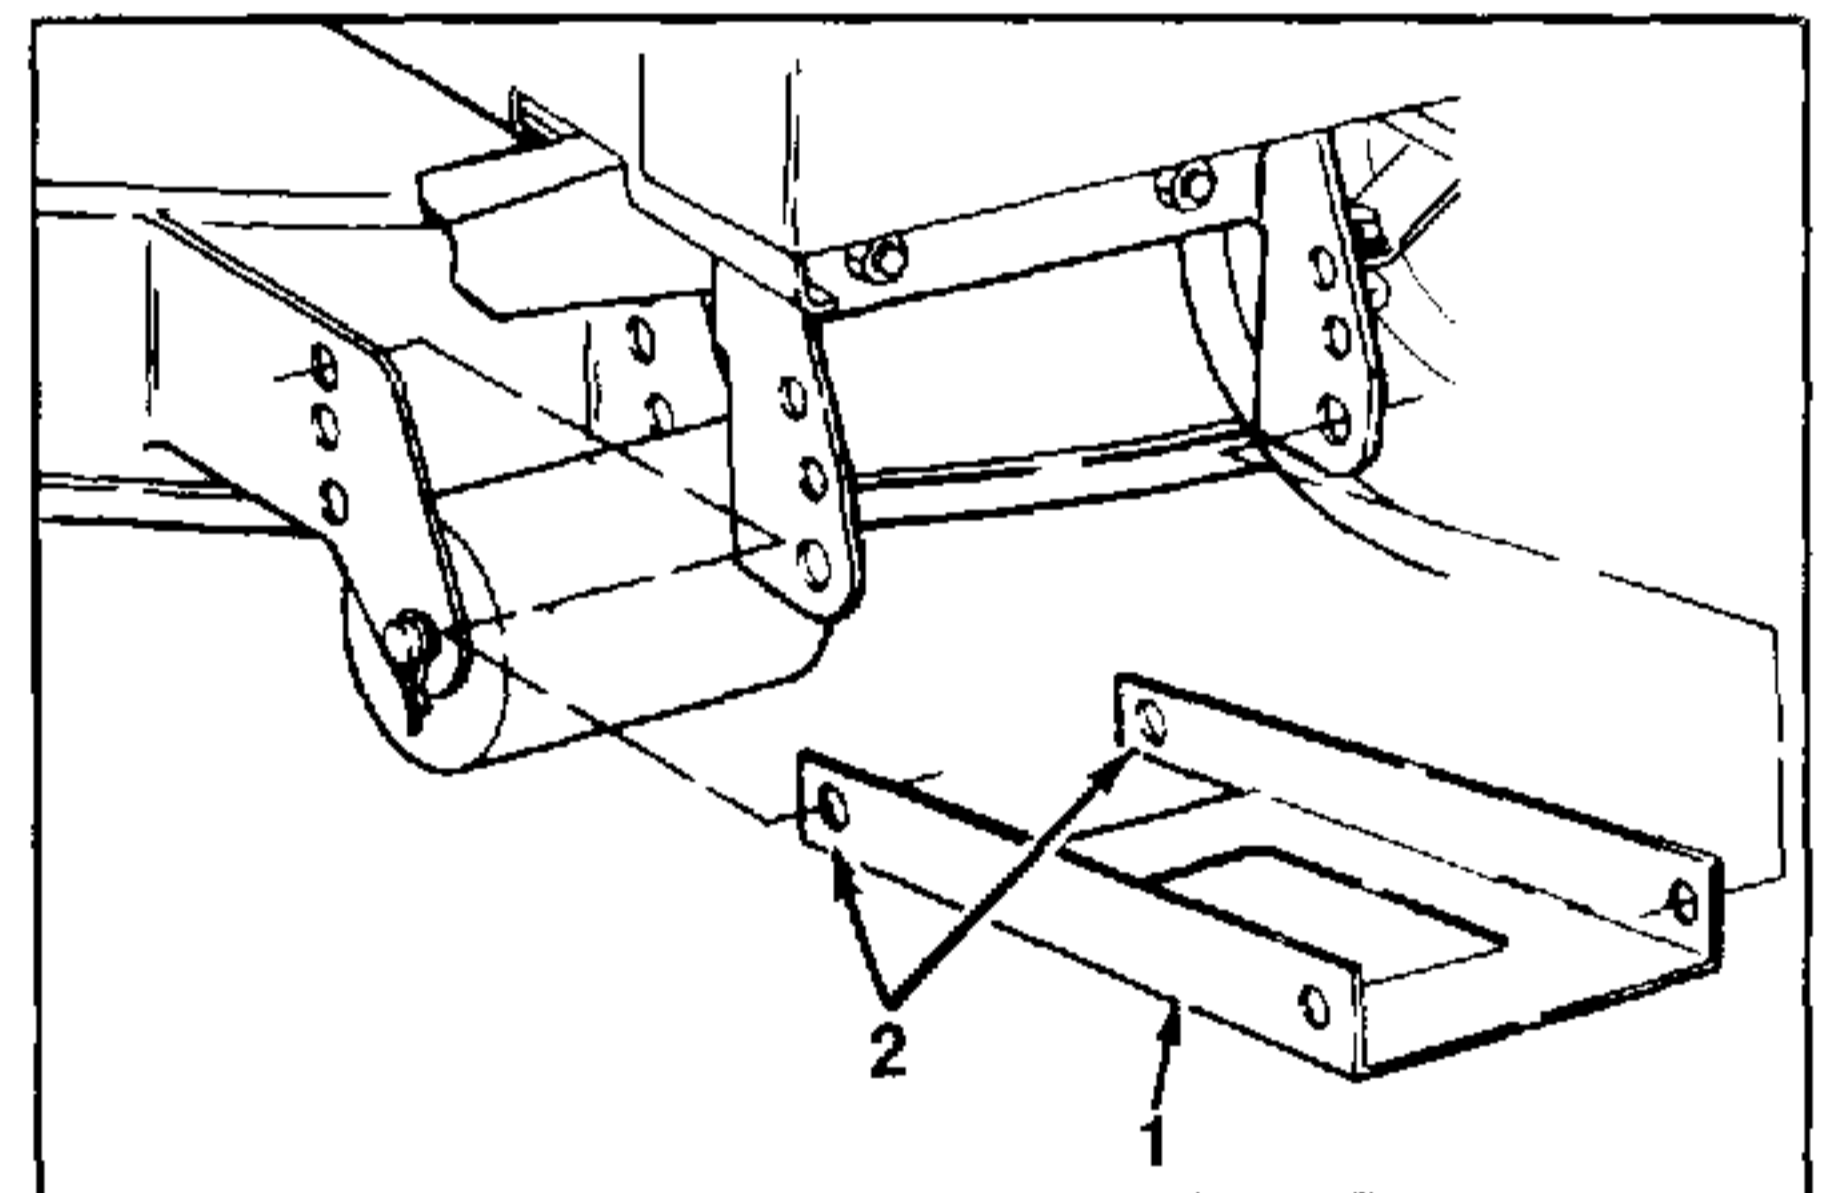

FIGURE 9.
10. Refer to figure 9 to determine the proper positioning of the front hanger assembly in relation to the tractor and deck. Note that when the front hanger assembly is properly positioned, the hanger extensions face the rear of the tractor, and the top of the front hanger assembly is open. Attach the rear of the front hanger assembly to the top hole of the front roller bracket using the deck hanger rod. Secure the rod to the bracket using a flat washer and hairpin cotter.